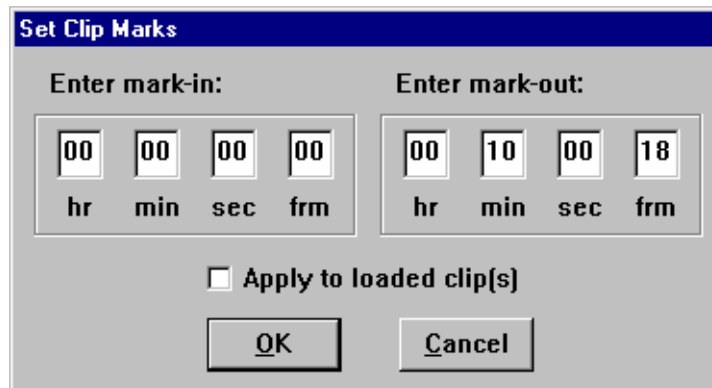

Figure 4. Set Clip Marks dialog box
2. Choose **Controller | Clip Length**. The Set Clip Marks dialog box appears (Figure 4).